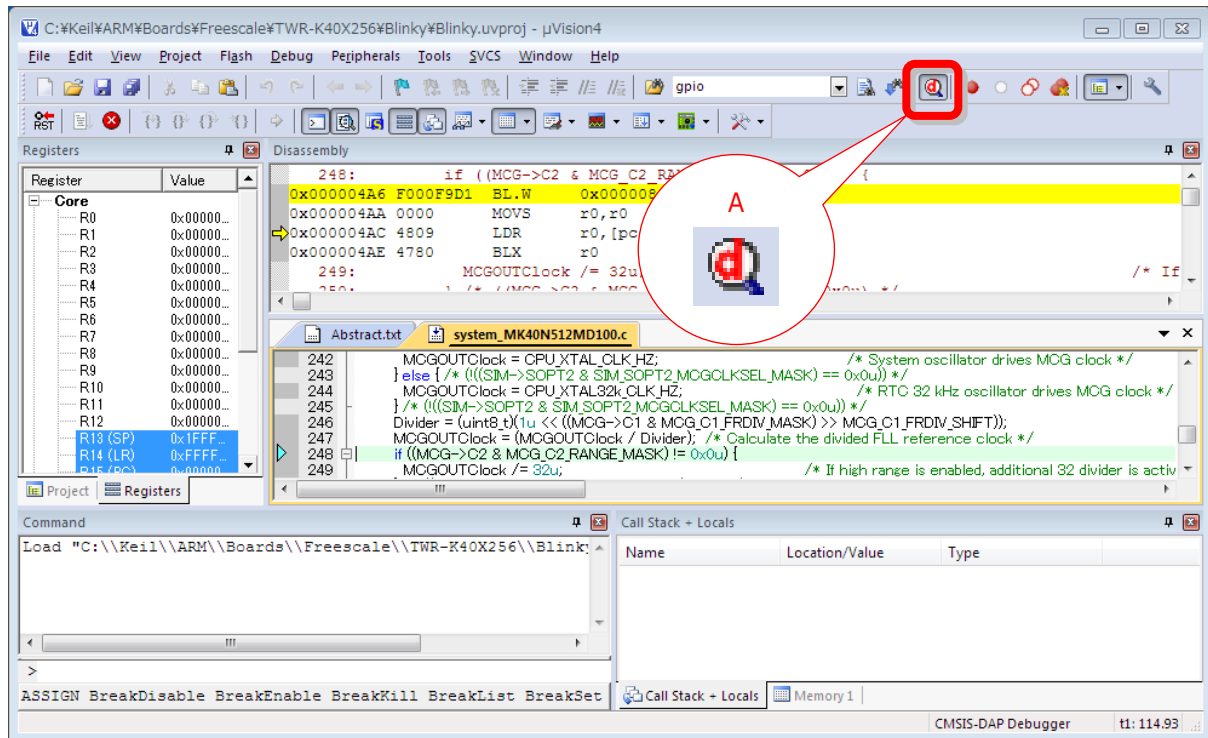

Figure 9
Pressing the "A" button as shown in Figure 9 starts download of a binary file and a debugging session.
- 5) Press the "A" button as shown in Figure 9 to start a debugging session.